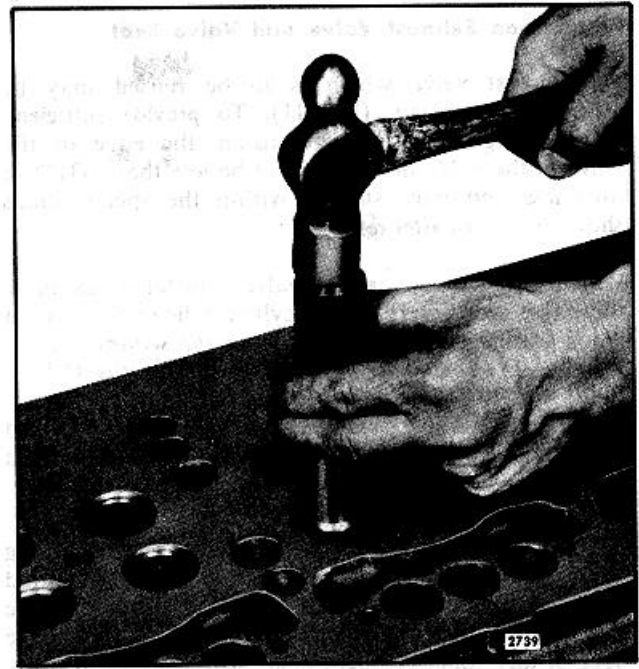

Fig. 10. Installing Valve Seat Insert
5. Drive the insert in place with installer J 1736 as shown in Fig. 10 until it seats solidly in the cylinder head.